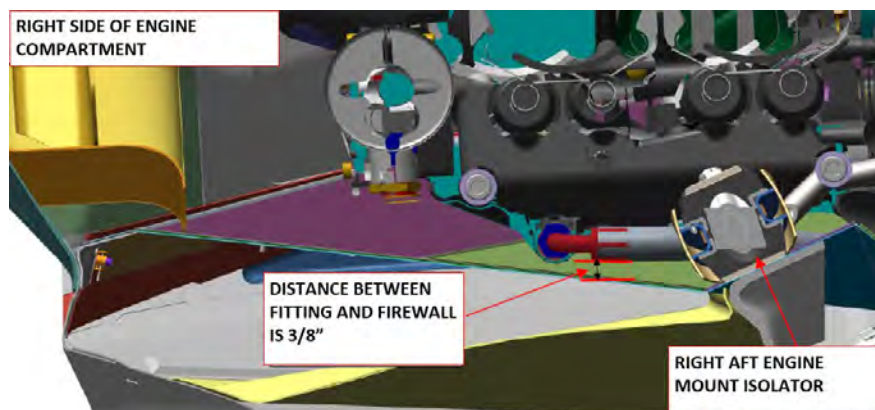
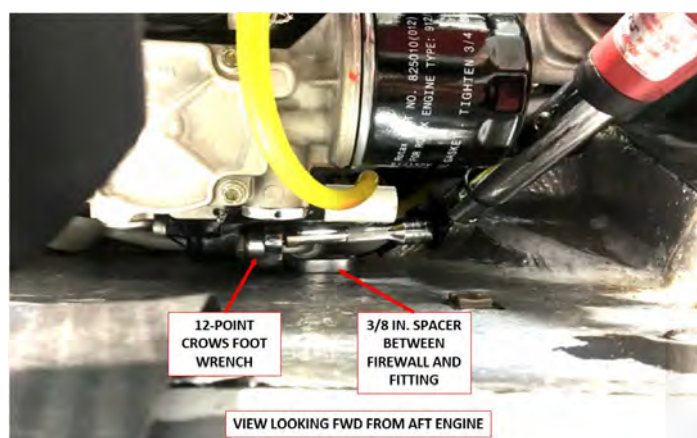

FIGURE 17-12
FIGURE 17-13
13. Ensure that there is a clearance of approximately 3/8" between the firewall and engine oil return fitting using a 3/8" spacer. (See Figure 17-12.) If the clearance is less, lightly loosen the fitting and use a 7/8" 12-point crows foot wrench to torque the fitting. (See Figure 17-13.)